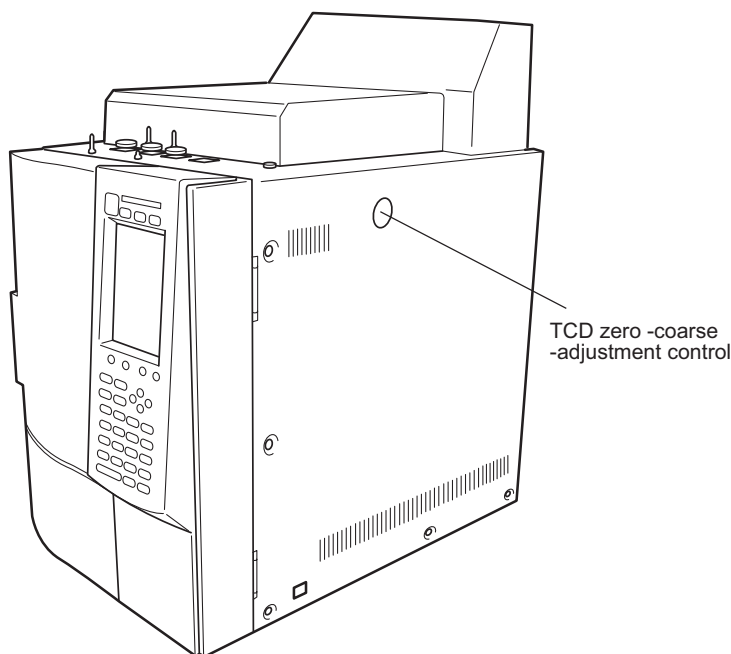

Fig. 13.2.4
2. Turn the TCD zero-coarse-adjustment control shown on Fig. 13.2.4 to make the baseline close to zero. It takes a while for the baseline to move after the control is turned. Turn the control slowly.